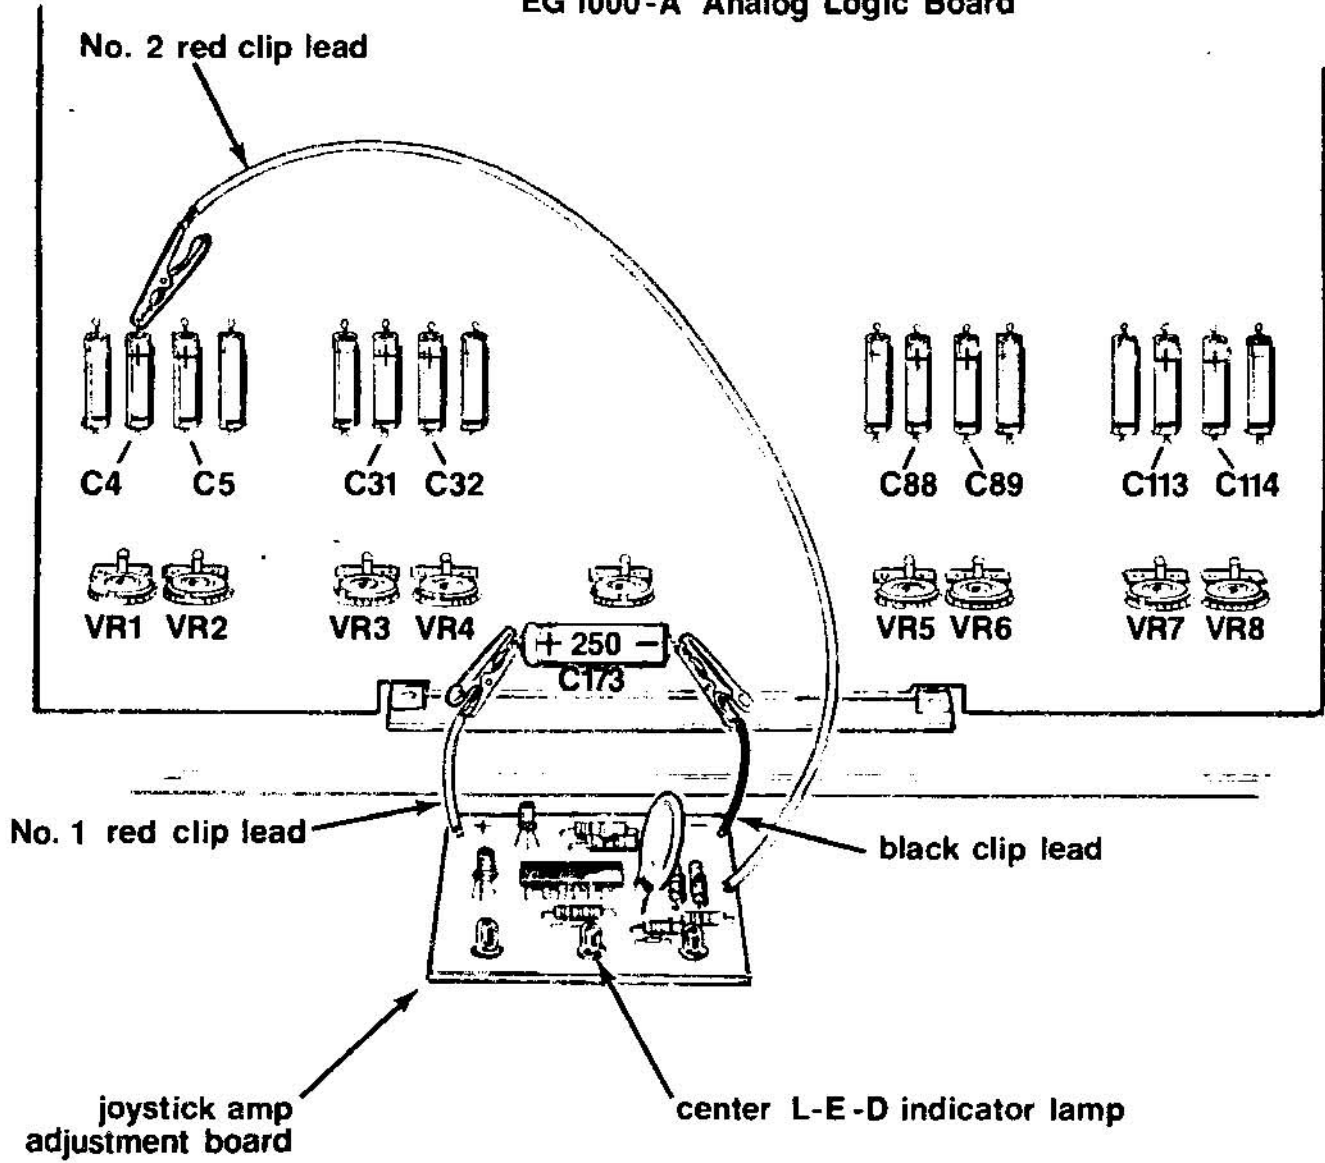

Figure 10 Joystick Amplifier Adjustment
Joystick Amplifier Adjustment - Refer to Figure 10 for the following. The "Joystick" Amplifier Adjustment is factory set and normally require readjustment only when the the EGI000-A Analog Board is changed, or if any of the "Joysticks" are replaced. There are two controls for each car. The controls adjust the voltage at the output of the "Joystick" Amplifiers. The purpose of the adjustment is to minimize drift of each car in the vertical and horizontal direction when the "joystick" is in the upright "rest" position, and to standardize the speed of the cars. The adjustment is relatively simple, when using the "Joystick" Amp Adjustment Board, which is available from your distributor,
- 3) Observing correct polarity, connect the Black and #1 Red clip leads to C173, 250 mfd capacitor as shown in Figure 10. All adjustments will be made with these leads connected.
- 4) Connect the #2 Red clip lead to the Positive (top) side of C4 (1 mfd capacitor). (See Figure 10.) Adjust VR-1 until the center LED indicator is illuminated.